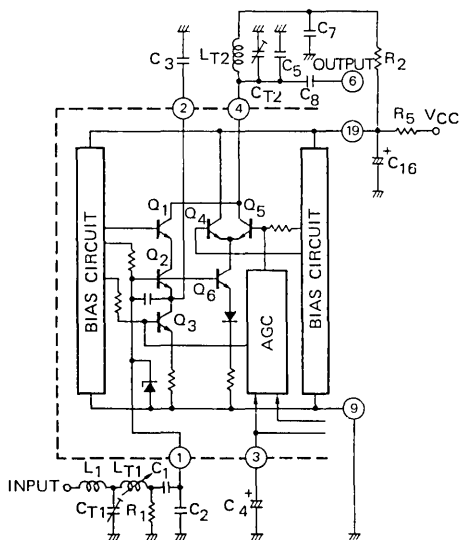

Fig. 1 Equivalent Circuit of RF Stage.
The radio-frequency (RF) stage consists of an RF amplifier and an automatic gain control (AGC) circuit. (see Fig. 1)